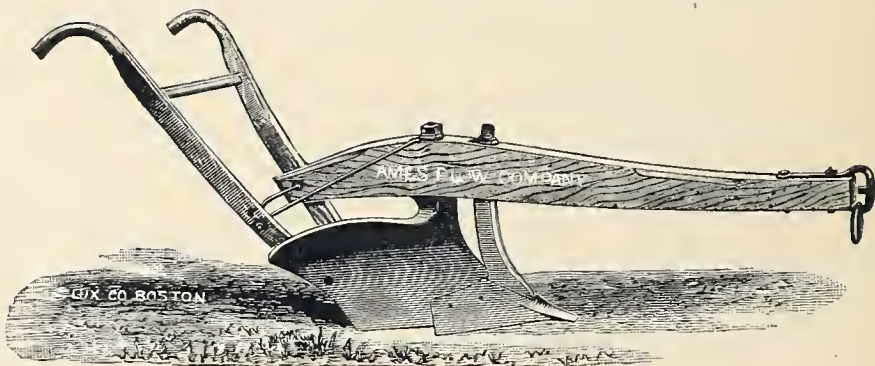

Fig. 300.—Heavy Road Plow, No. 8.
*Heavy Road or Contractors' Plow, No. 8, Lock Coulter*, represented by *Fig. 300*, made very strong in all its parts, and further strengthened by extra braces,